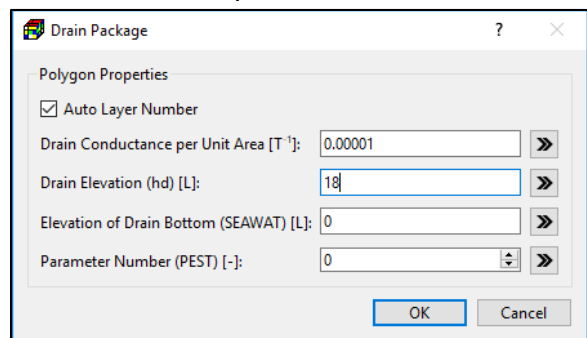

Figure 26. The Drain Package dialog box
- **Edit Polygon Data:** Select this item to display a dialog box for polygon data entry, enter data to the dialog box, then click OK. Most dialog boxes for the polygon data entry contain **»** buttons next to the data entry fields. Figure 26, for example, shows the Drain Package dialog box with the **»** buttons. You may click the **»** button next to a parameter to replace the data of the cells located within the polygon with that parameter value. For packages¹⁶ that support multiple instances of package-specific features in a cell, such as the Well Package, the **»** buttons only act on existing instances in cells.